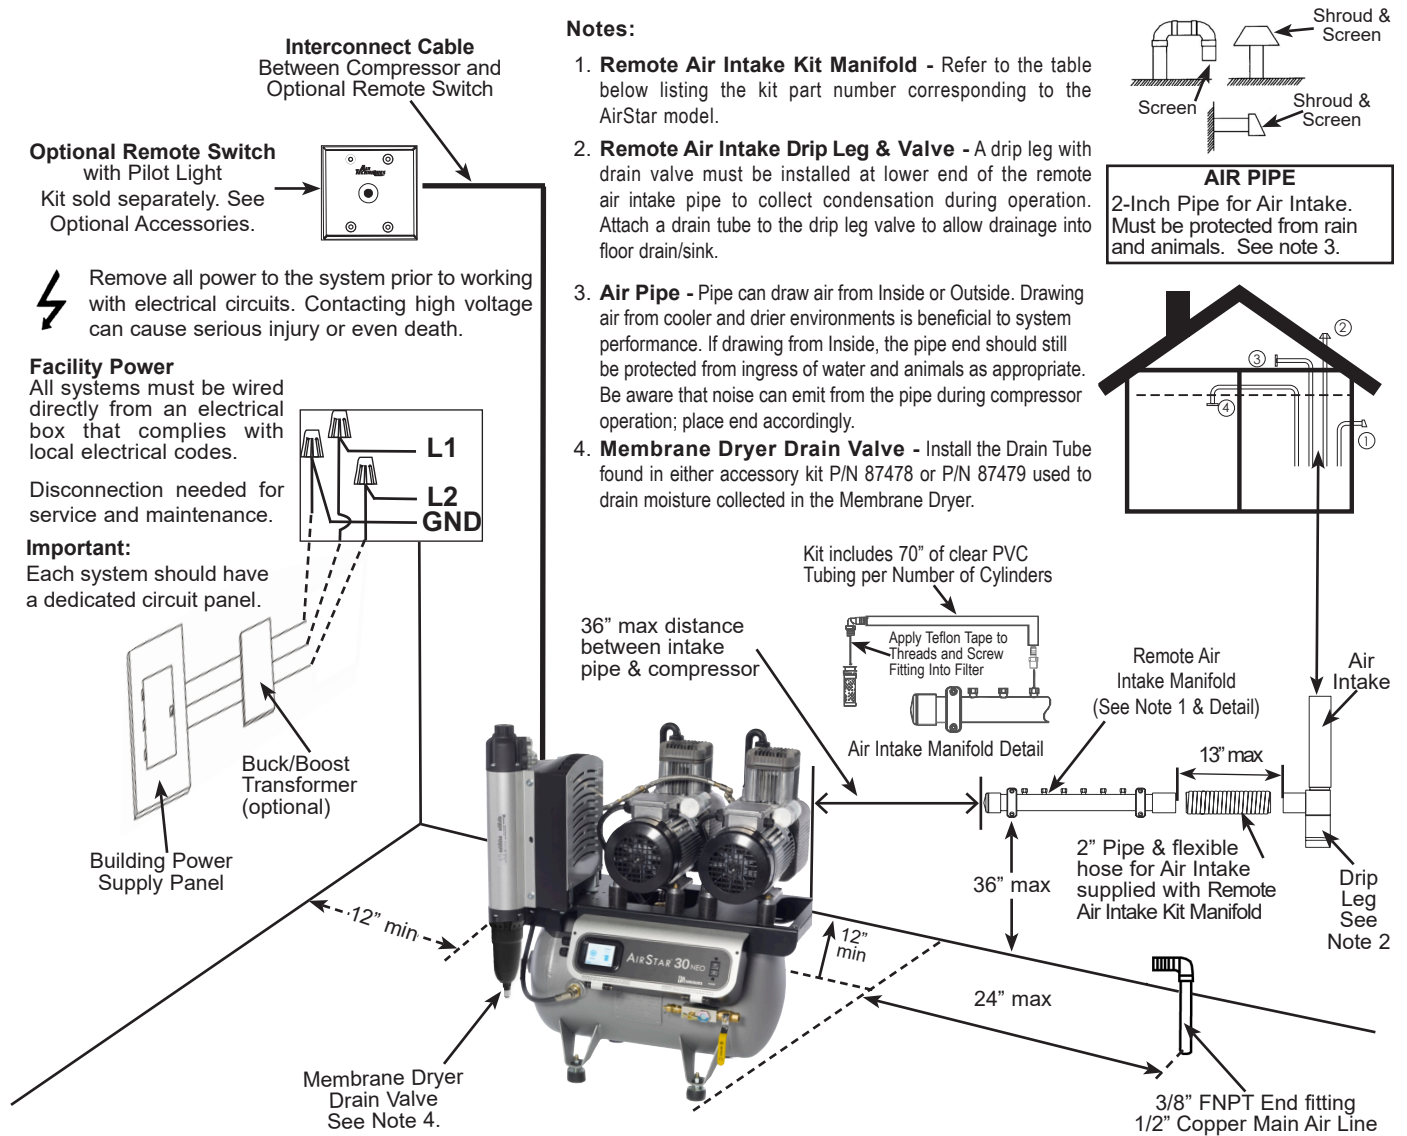

Figure 2. Overall Site Requirements
- **EQUIPMENT GROUNDING:** All **AirStar NEOs** must be connected to a grounded metal, permanent wiring system, or an equipment grounding conductor must be run with the circuit conductors and connected to the equipment grounding lead in the **AirStar NEO's** flexible metal conduit power supply. Failure to do so can result in fire, electric shock, injury, or death. See Figure 2, Overall Site Requirements, page 7.